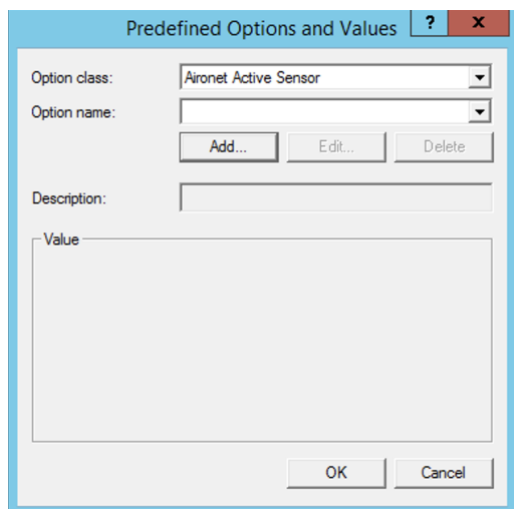

Figure 25.
4. Right click on IPv4, then **Set Predefined Options**, then open the **Option class** drop down menu and select the **DHCP Vendor Class** you've created the step prior then click **Add (Figure 25.)**